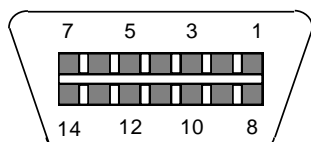

Fig. 3
2.2.1 Shown at Fig.3 are the pin assignments for the load cell connector.